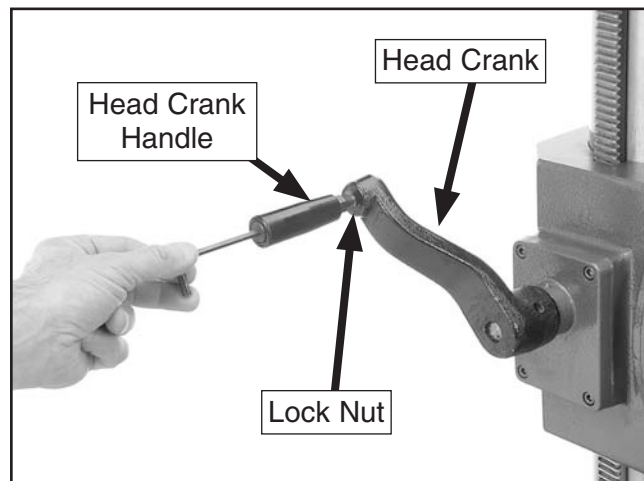

Figure 20. Head crank.
14. Attach the head crank handle in the same method used for the handwheels. Thread the handle into the crank body, then tighten the lock nut (**Figure 20**).